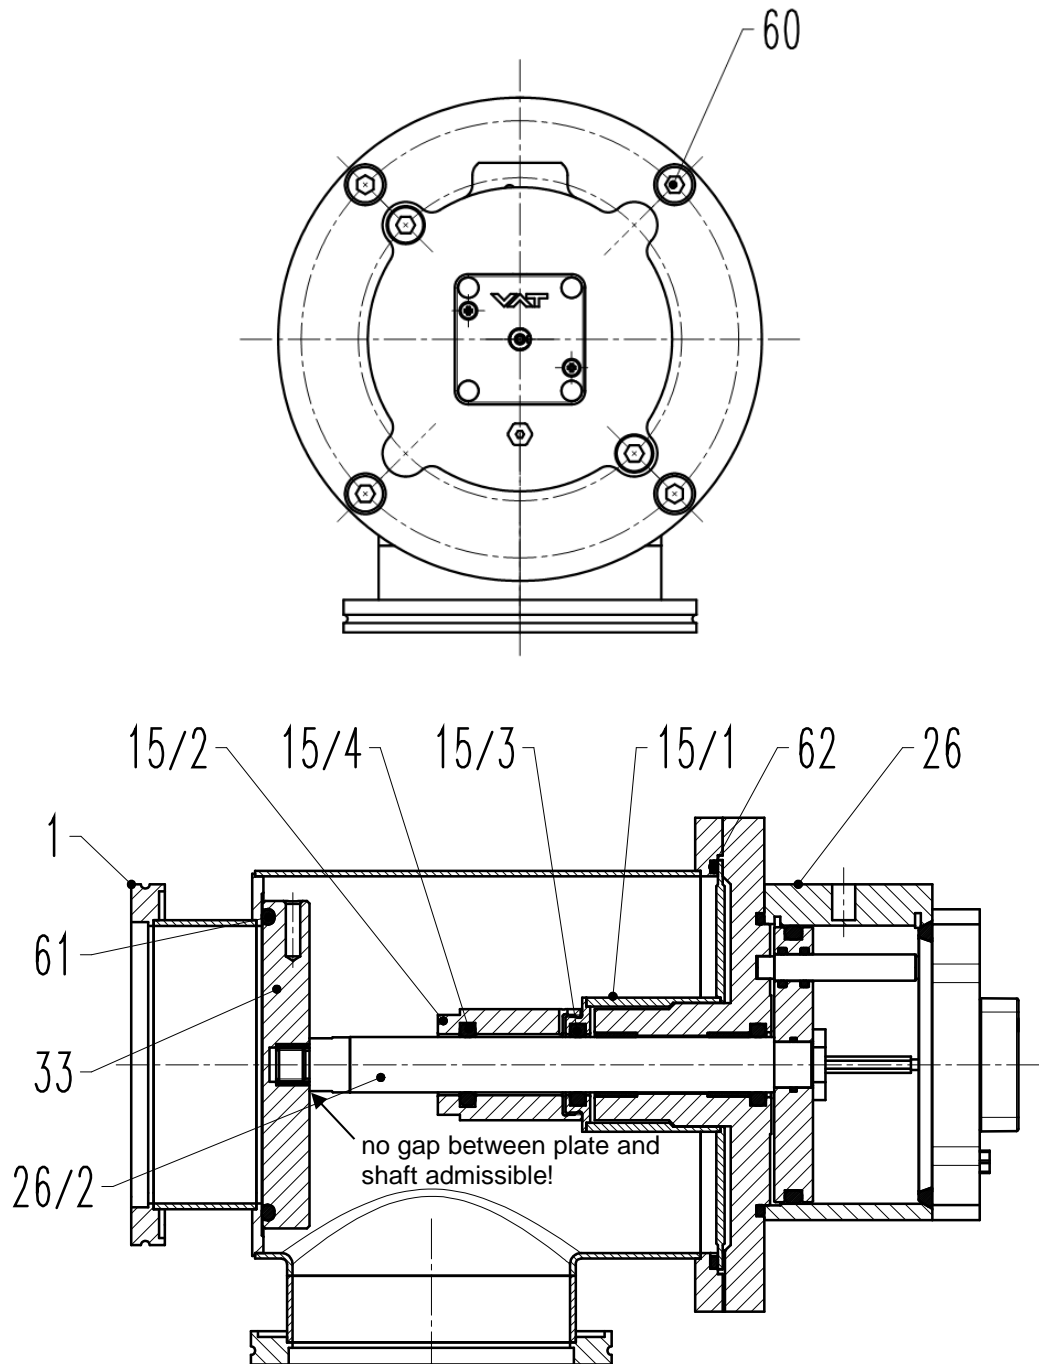

Figure 6-2
The follow item numbers in brackets refer to «Figure 6-2» on page 17.
7. Apply 0.20 g vacuum grease on the thread of the actuator shaft (26/2) and screw the plate (33) to the actuator shaft (apply a 35Nm torque to fasten the thread).
There must not be a gap between the plate (33) and shaft (26/2); see «Figure 6-2» on page 17.